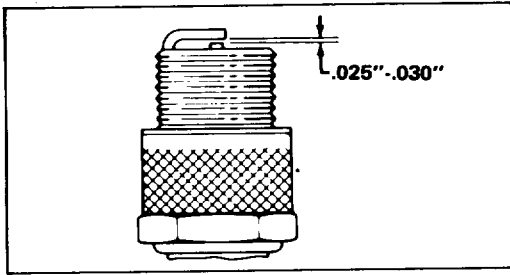

Figure 29
REPLACING SPARK PLUG (Fig. 29)
3. Set air gap between electrodes of new spark plug at .025-.030 of an inch (Fig. 29). Next, install spark plug in cylinder head. Tighten plug to 15 ft-lb. If torque wrench is not used, tighten plug firmly.